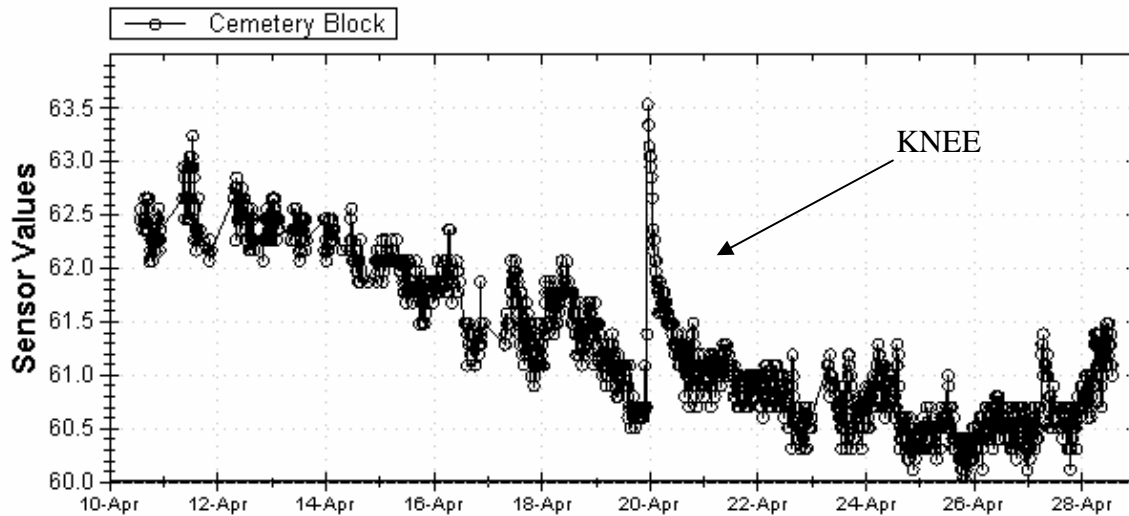

Figure 5
3. The third practical approach in utilizing soil moisture data for irrigation is to monitor the trend. There are many factors that influence the absolute reading of soil moisture, but trends are much more reliable. Automated data acquisition is required for this approach. Field capacity is determined by watching for the "knee" in a dry down curve from saturation. (refer to figure 5)